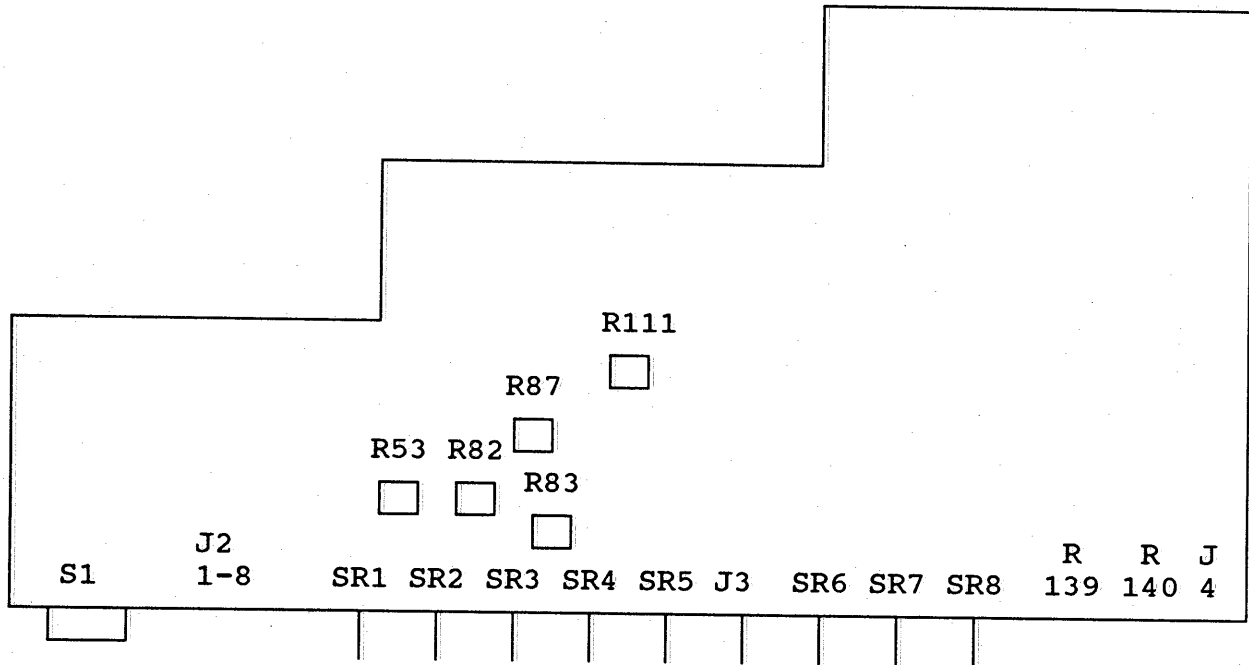

Figure 5-1. Internal Adjustment Locations (top view of bottom PCB)
3. Refer to the adjustment location drawing (Figure 5-1) to determine the physical location of the desired pot.
Figure 5-1 shows locations for internal control adjustments.
Output corrected but picture not framed horizontally.	Misadjustment of H $\phi$ pot R111 (See Figure 5-1).